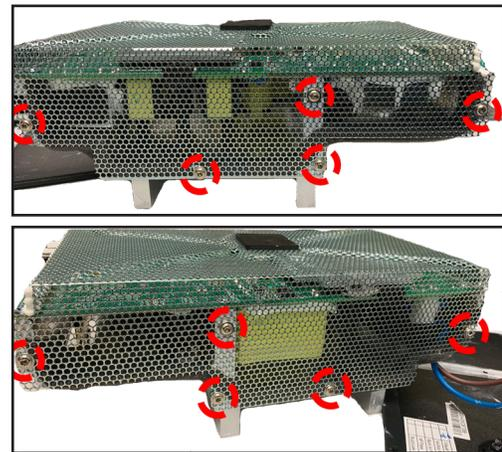

Figure 17. Shield Cover Screws Removal 1
4.3 Remove the 12 screws that secure the Shield cover of Power-Amp board as indicated in Figure 17,18.